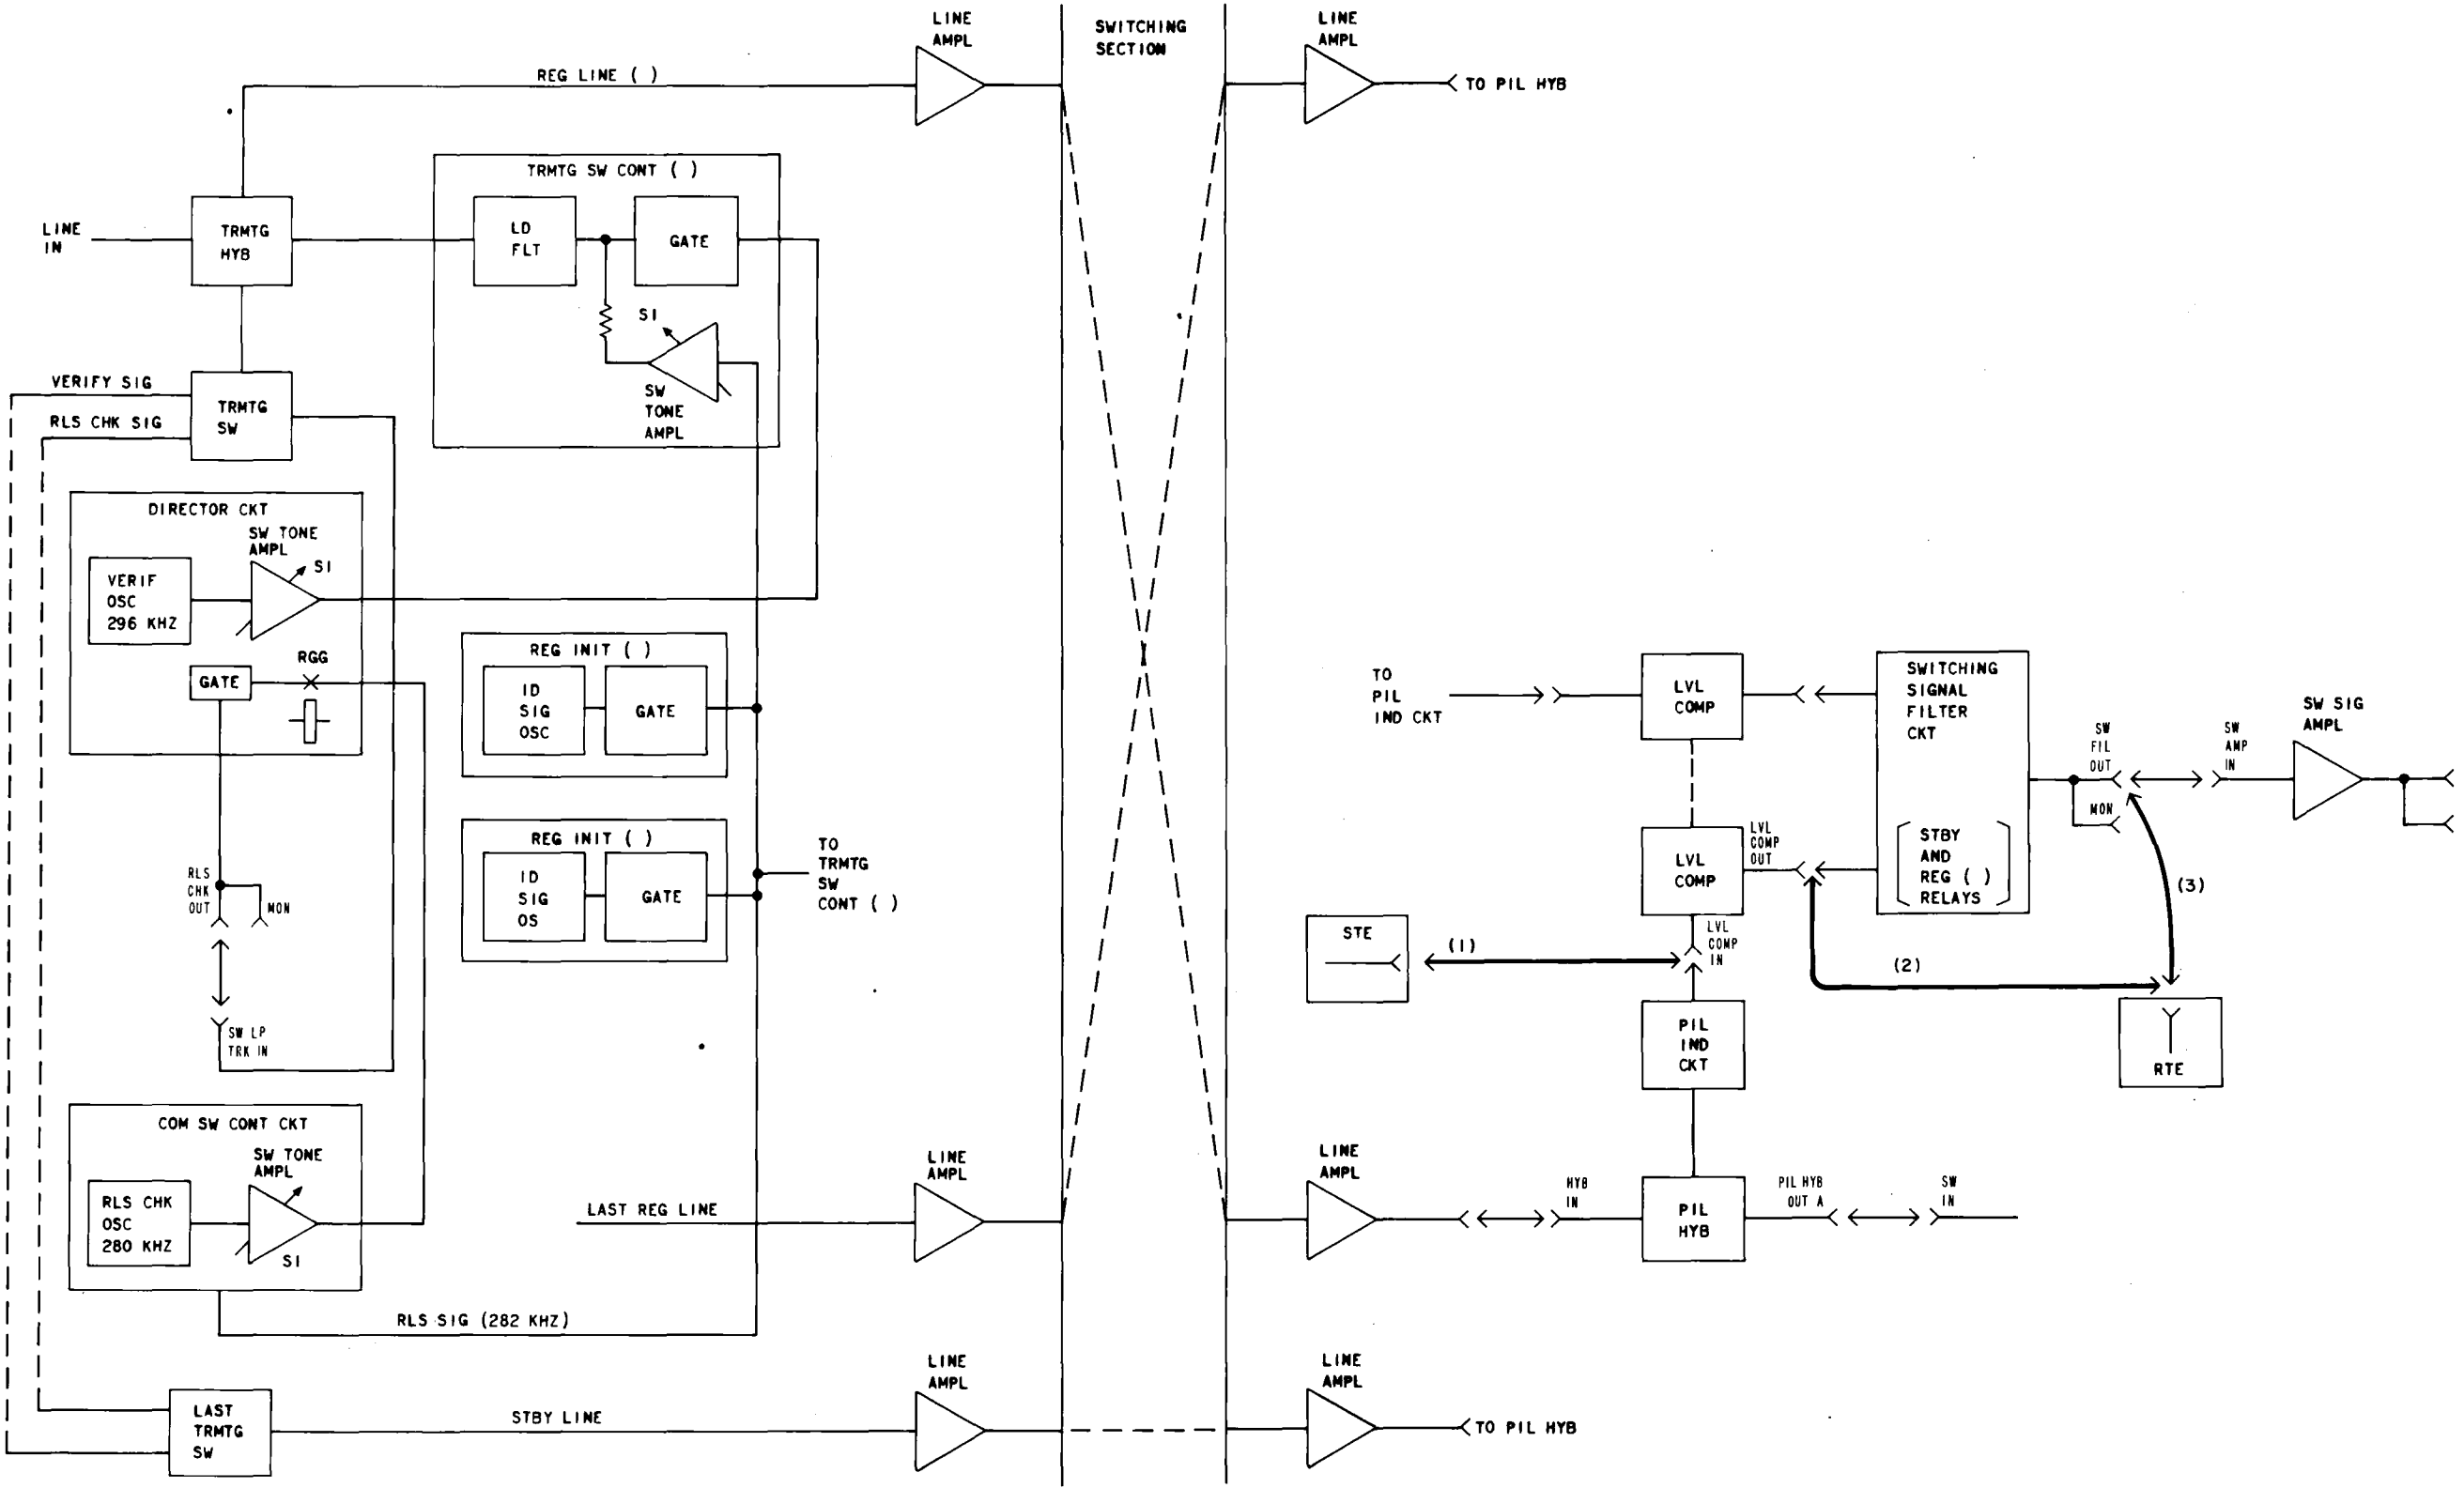

Fig. 2—L4—Switching Signal Level Adjustment
5	Connect the RTE to the LVL COMP OUT () jack [patch (2), Fig. 2] on the level compensation panel.
6	Connect the STE to the LVL COMP IN () jack [patch (1), Fig. 2] on the level compensation panel.
9	Remove patches (2), then (1) in Fig. 2.
3	Remove the patch plug between the SW FIL OUT and SW AMP IN jacks, Fig. 2.
4	Connect the RTE to the SW FIL OUT jack [patch (3), Fig. 2].
19	Disconnect the RTE from the SW FIL OUT jack [patch (3), Fig. 2].